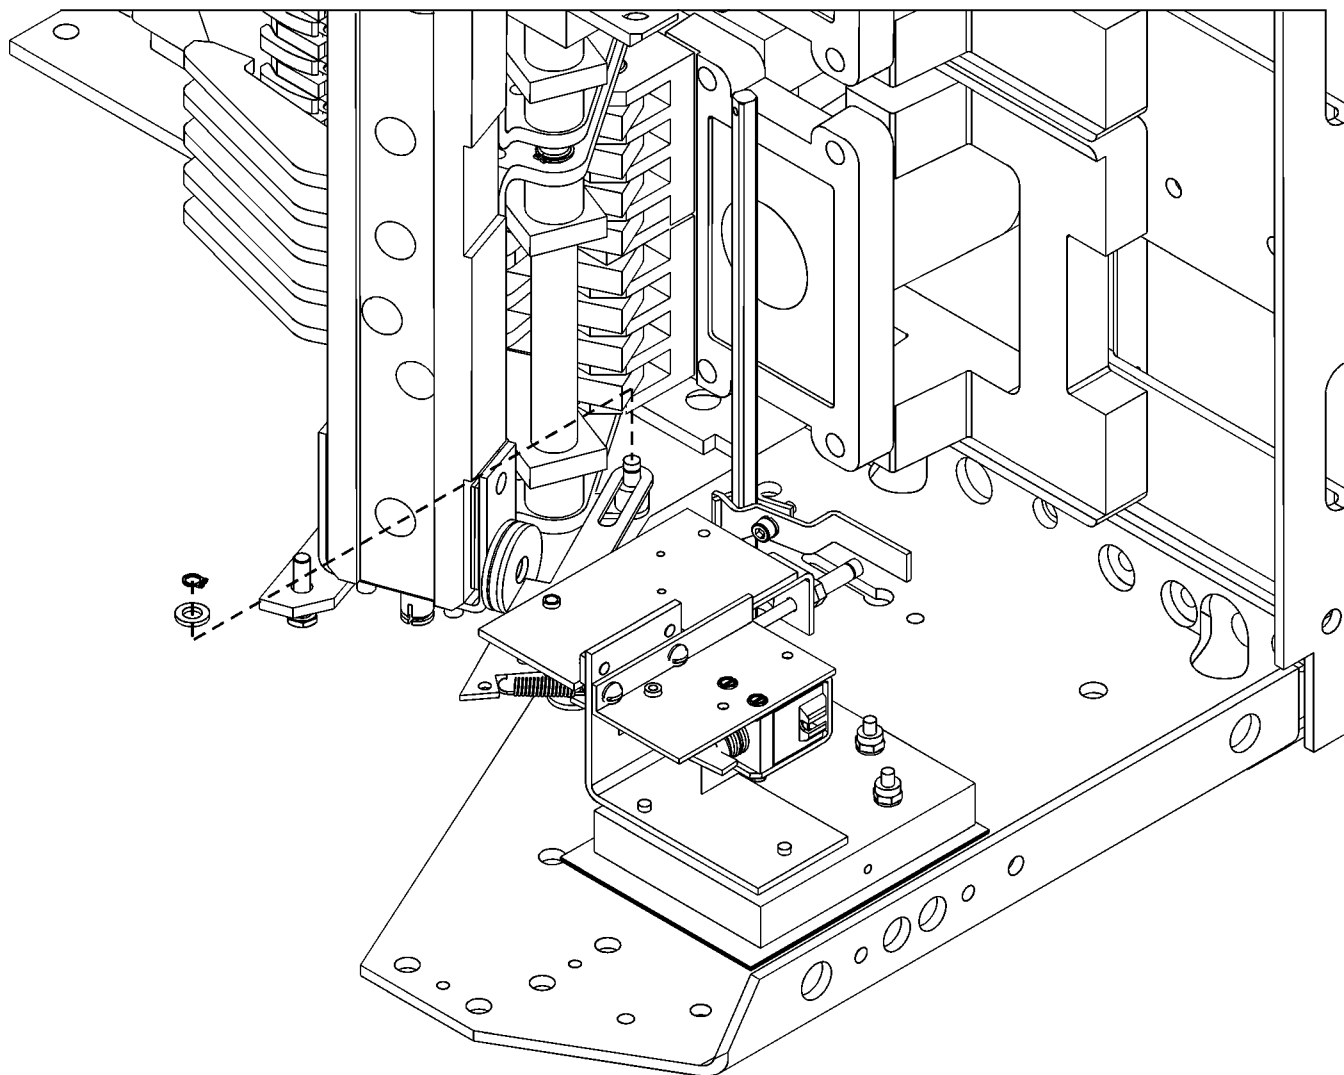

Figure 5-7. Disconnecting the flux shifter actuator from the crossbar.
8. Remove the snap ring and flat washer connecting the flux shifter actuator assembly to the crossbar assembly, as illustrated in Figure 5-7, then disconnect the actuator from the pin.
10. Place the slot in the flux shifter actuator rod over the pin on the crossbar, then secure it with the flat washer and snap ring, as illustrated in Figure 5-7.